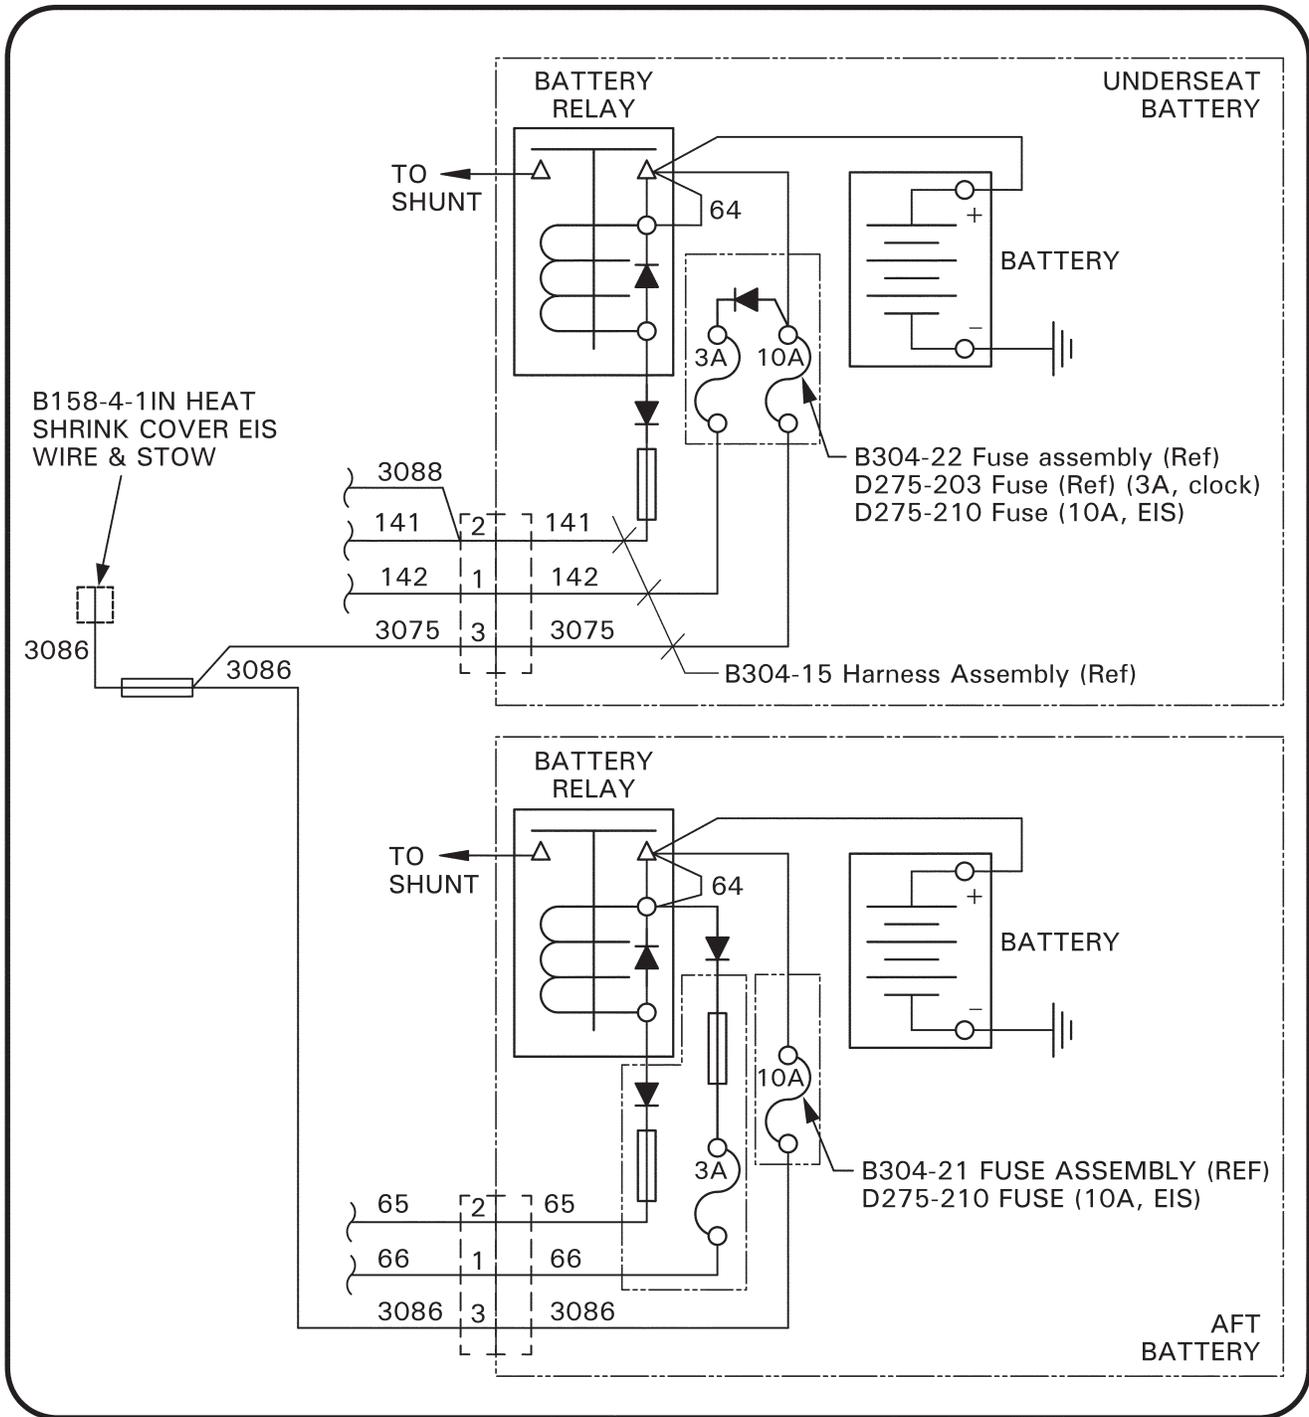

Figure 4 B304 Schematic
7. Refer to Figure 4. Locate B304-21 or -22 fuse assembly adjacent to B415 battery relay. Remove ty-raps as required and remove D275-210 (10A) fuse; secure using appropriately sized ty-raps. Cinch ty-rap until snug without over-tightening, and trim tip flush with head.